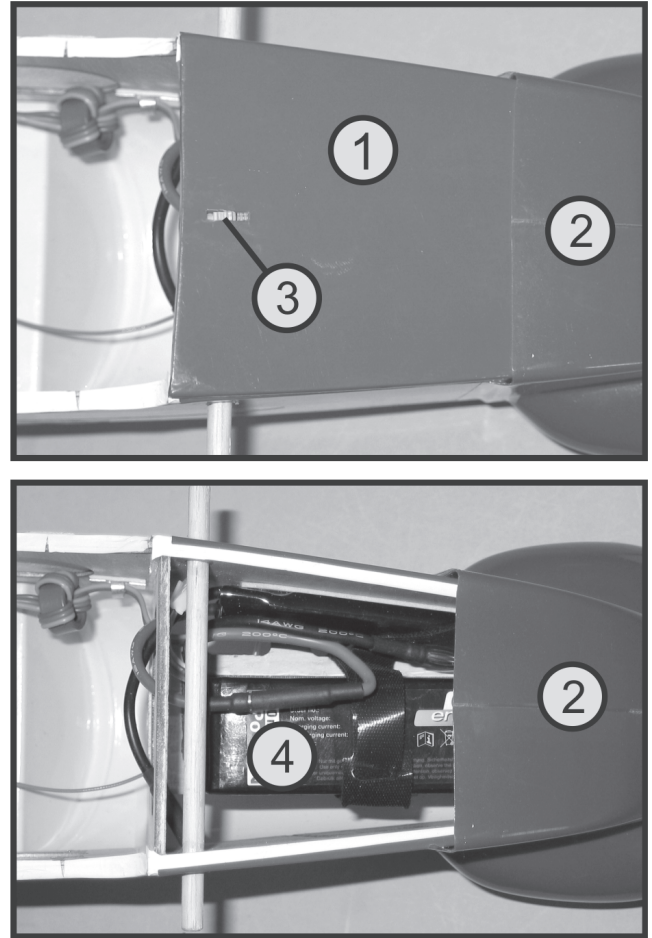

Figure 26
Push the motor hood onto the model and mount the spinner plate (4) and the propeller (5). The cover plate for the battery compartment (6) must be put on and locked (also see figure 26).